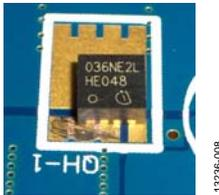

Figure 8. PP3×3 on Pads
- Once the solder mask on the source node is removed, flux the pads, and carefully place the FET as illustrated in Figure 8.